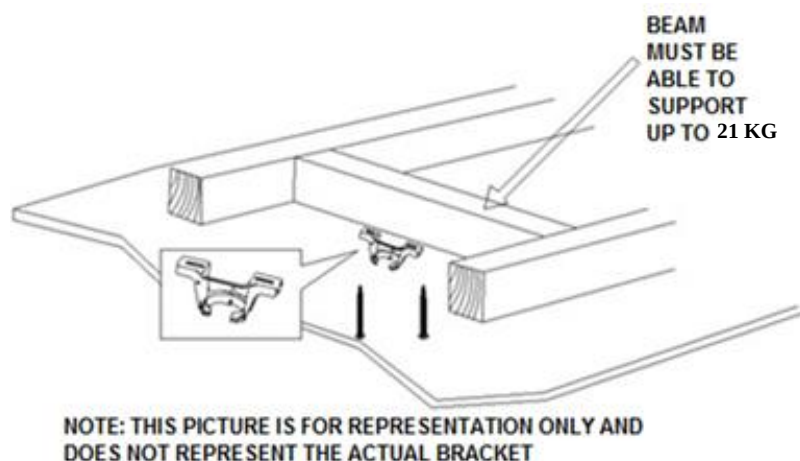

Fig. 2
- Install the hanging bracket to the ceiling joist or structure that is capable of carrying a load of at least 21 kg, with two long screws provided. Ensure at least 30mm of the screw is threaded into the support. (Fig. 2)